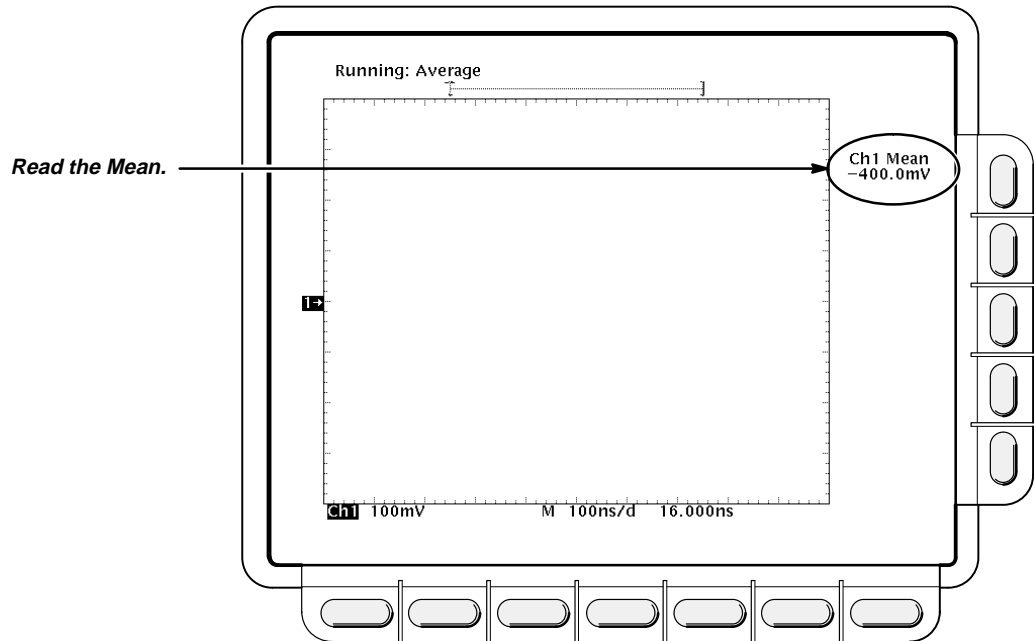

Figure 1-7: Measurement of Voltage Measurement Accuracy
- d. Read the measurement results at the mean readout on screen. Record the results for later use. See Figure 1-7.